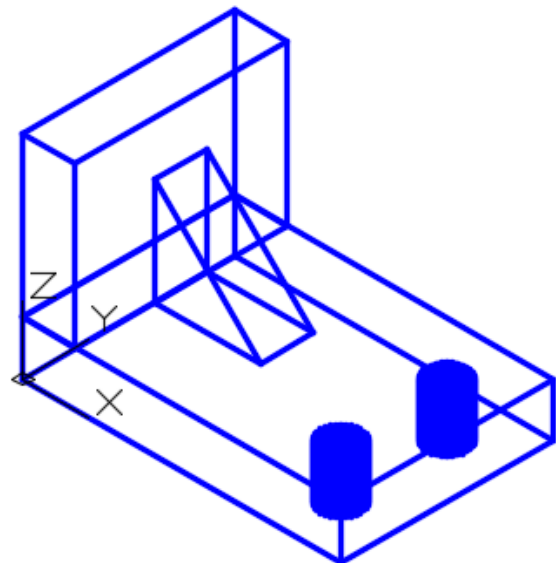

Figure Step 12
Step 12 Turn layer Construction off and your model should appear as shown in the figure. (Figure Step 12)